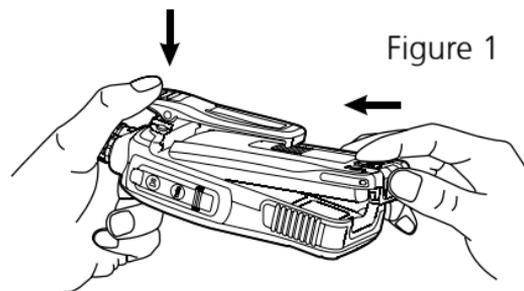

Figure 1
1. Hold the battery and attach it close to the top of aluminum chassis. (Note: Insert tab on top of the battery into the top of battery slot.) See Figure 1.